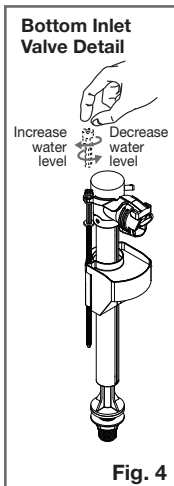

Fig. 4
- 6- Adjust water level. Turn on water mains. Open the Cistern Stop Valve and check the operation of the mechanisms and valve. Adjust water level to the water level mark inside the cistern by simply turning the float arm adjustment screw in a clockwise or anti clockwise direction as detailed in Fig. 4.